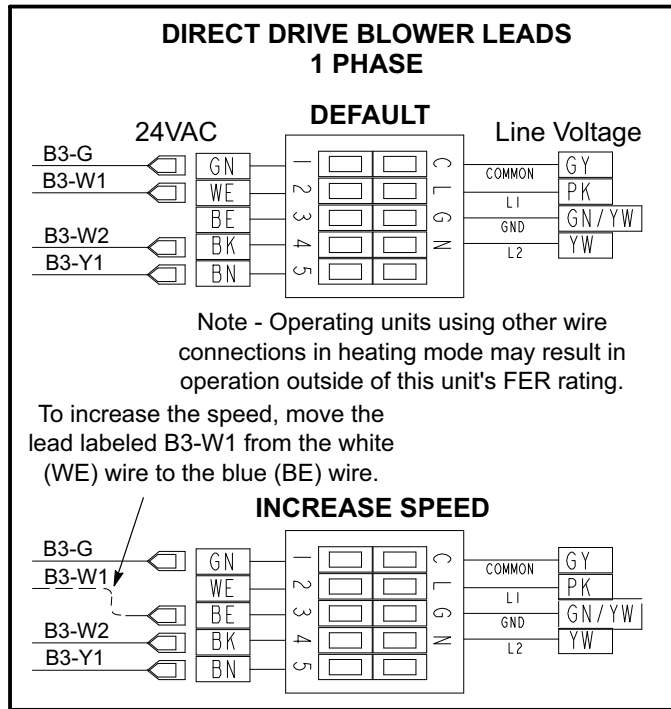

FIGURE 9
- 2- If CFM is lower than the design specified CFM, move the leads as shown in figure 9 for 208/230 volt single phase units.